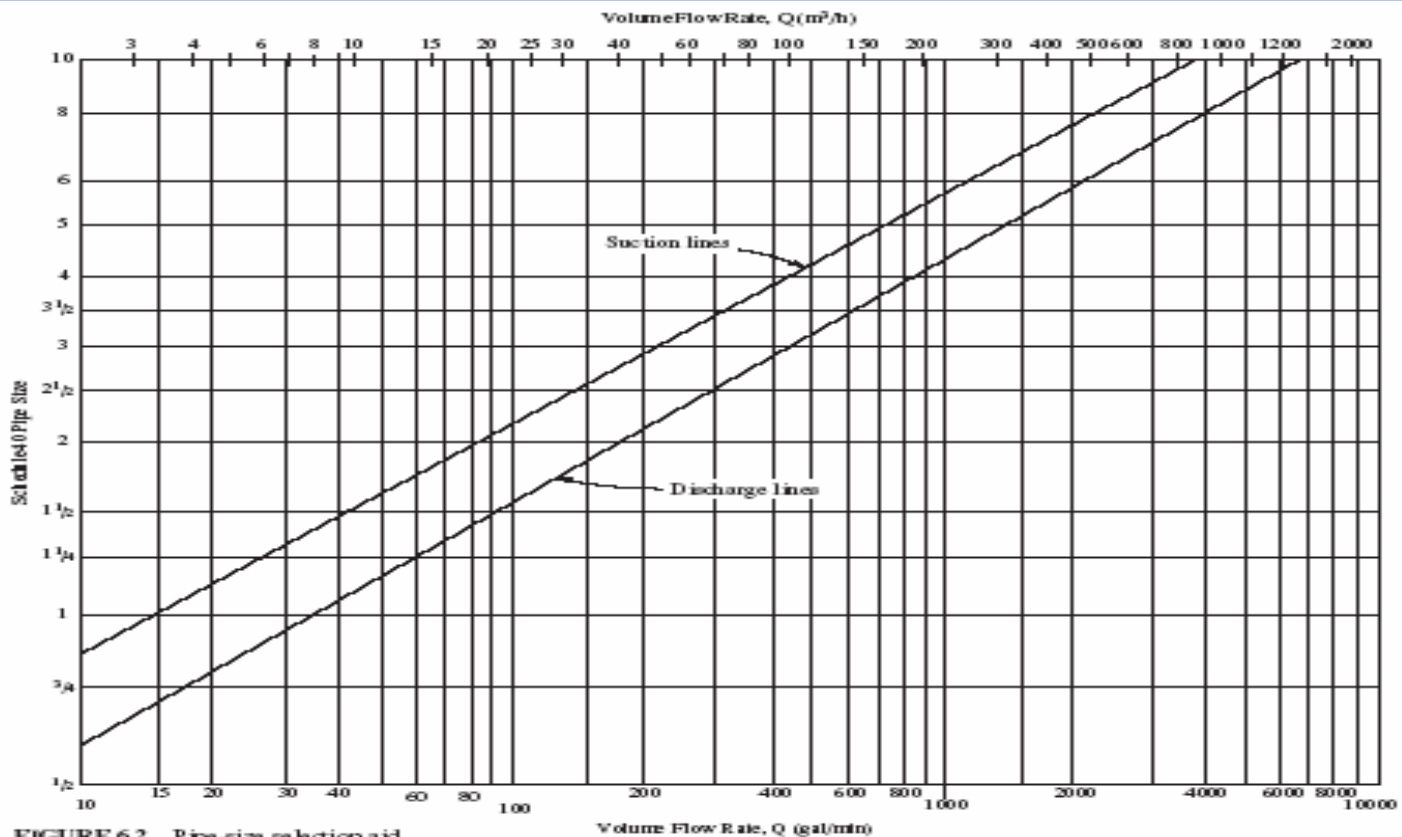

FIGURE 6.2 Pipe-size selection aid.
- The resulting flow velocities from the recommended pipe sizes in Fig. 6.2 are generally lower for the smaller pipes and higher for the larger pipes, as shown for the following data.